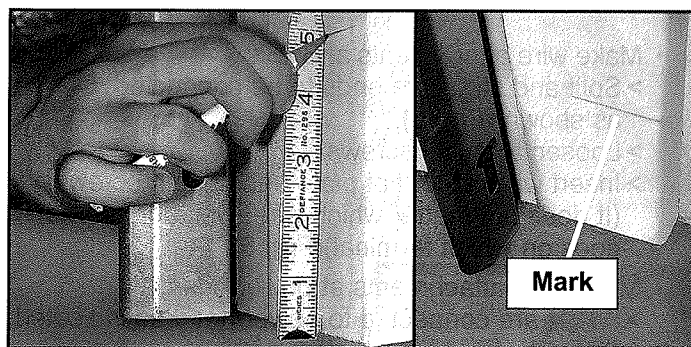

FIG. 1 Mark door frame
- > On both left and right side of door (**Fig. 1**).